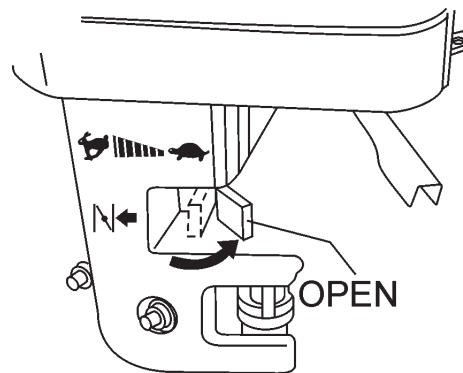

Figure 14. Engine Choke Lever (Open)
4. Place the **choke lever** (Figure 14) in the "**OPEN**" position if starting a **warm engine** or the **temperature is warm**.